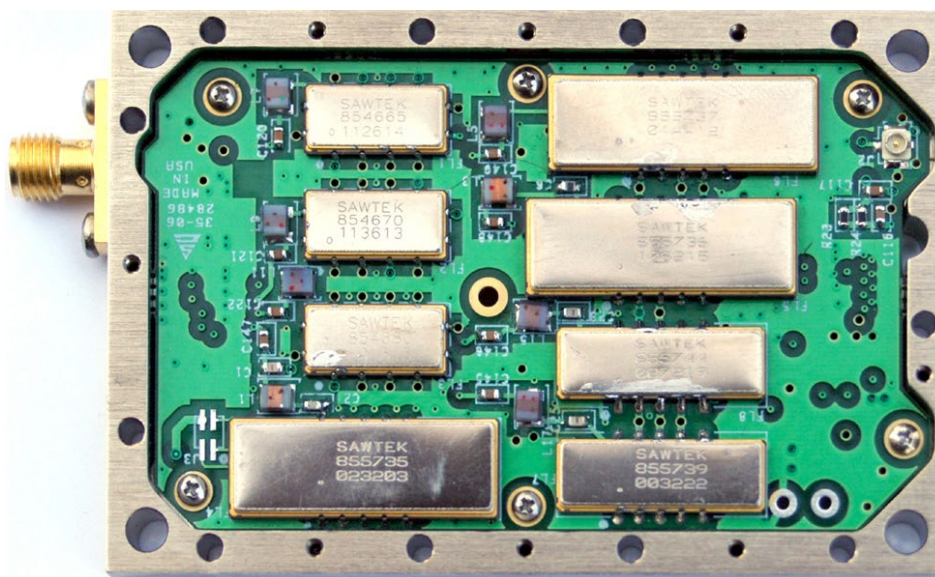
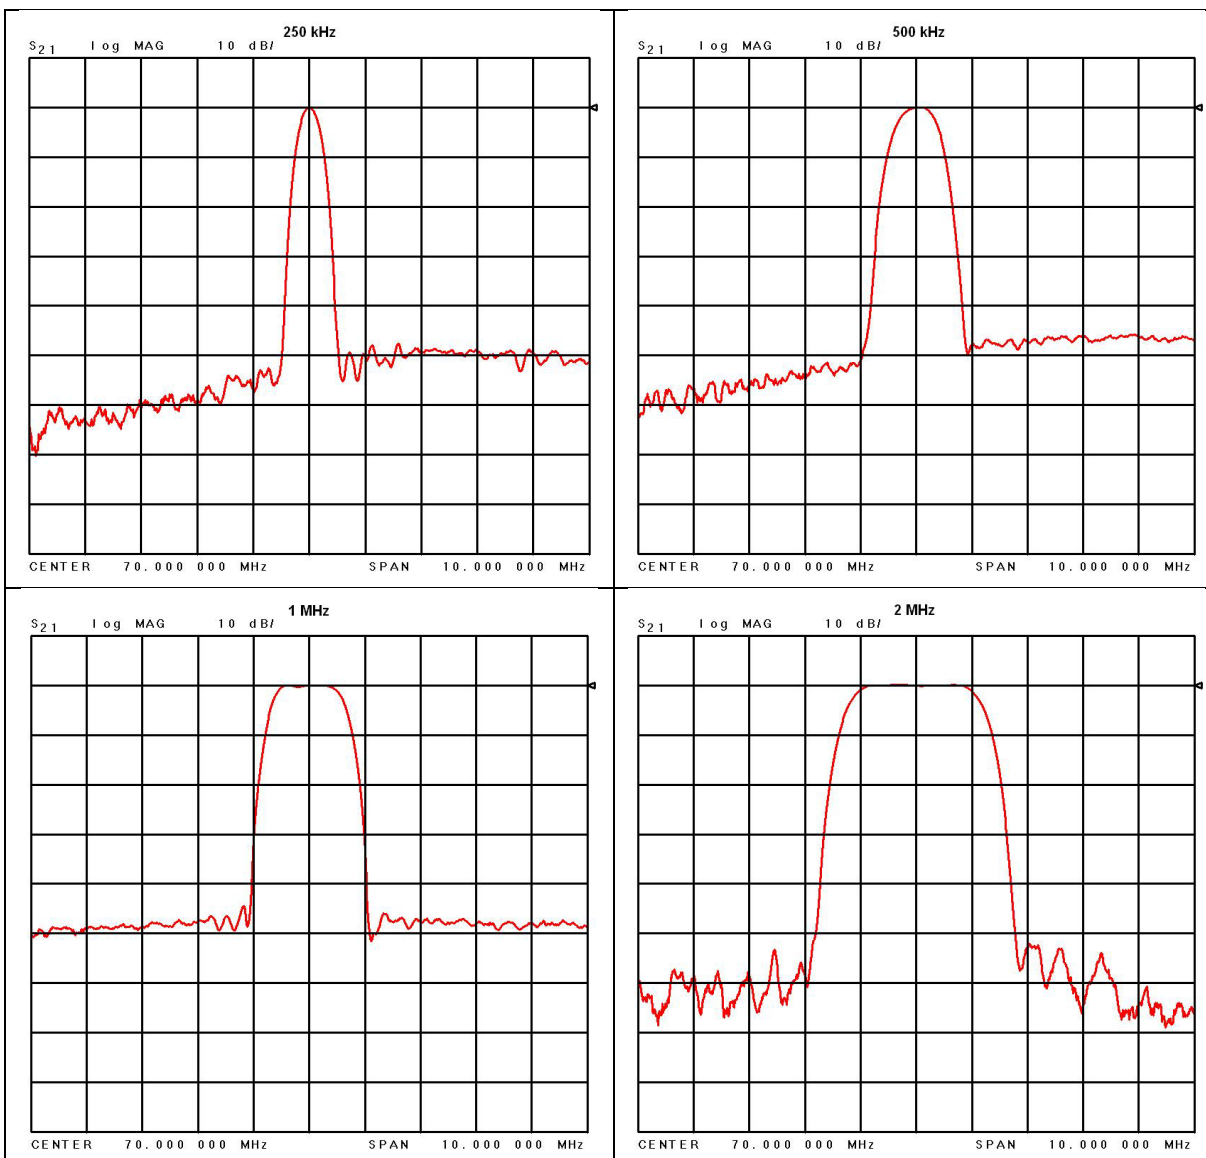
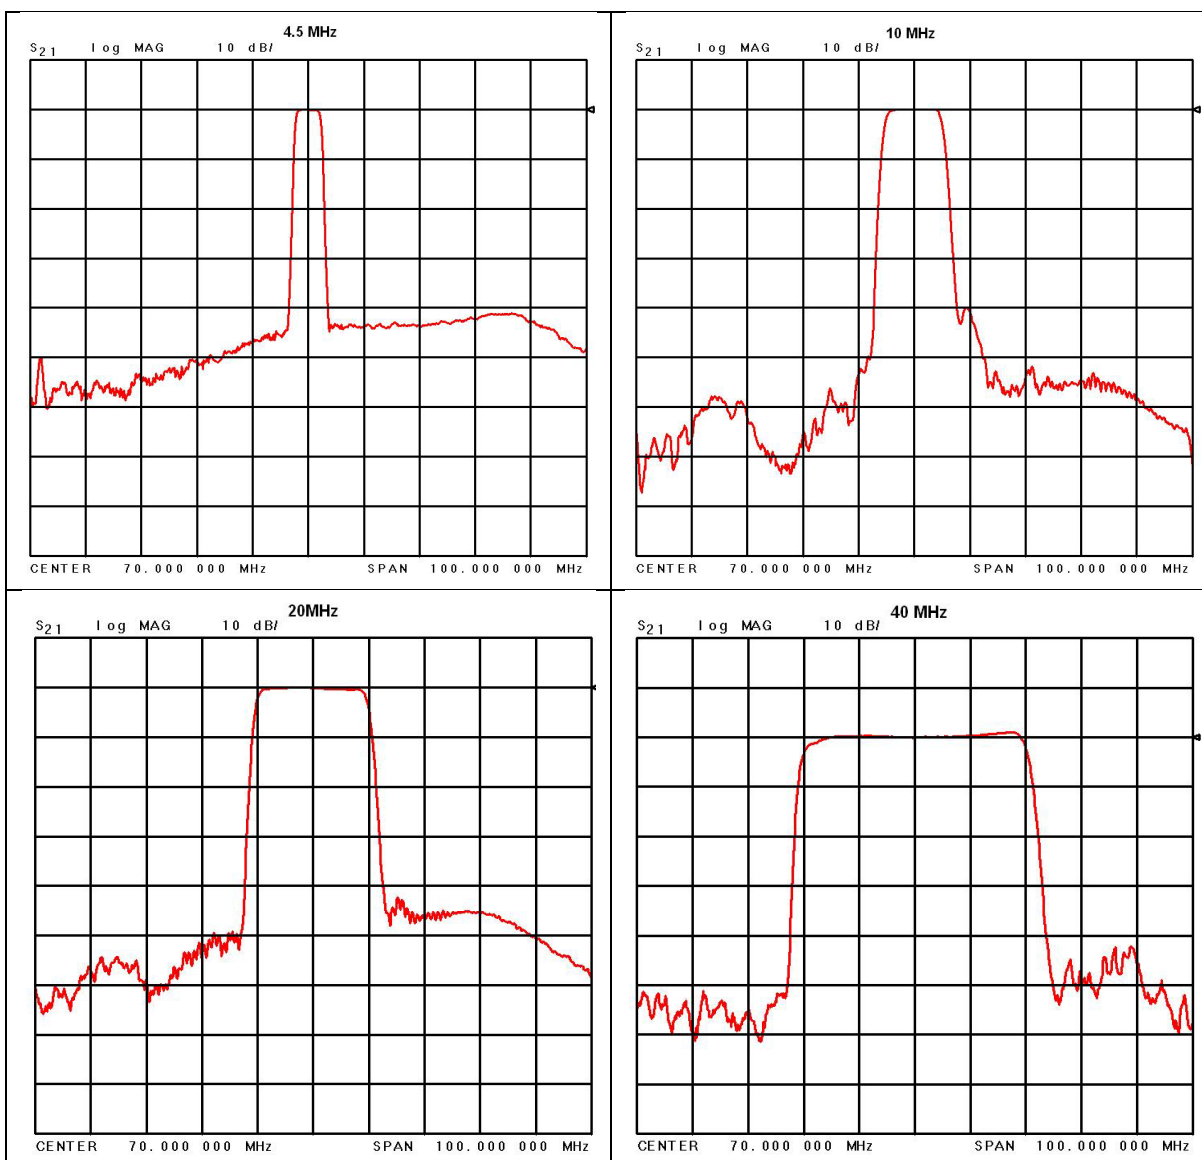

Figure 11: 70 MHz IF Module in 2" x 3" Chassis
Figure 12: 70 MHz IF Module in 2" x 3" Chassis SAW Filter Responses, Narrow Group (10 MHz Span)
Figure 13: SAW Filter Responses, Wide Group (Plotted on 100 MHz Span)
The receiver's integrated IF filter module, shown in Figure 11, includes eight (8) SAW filters, ranging in bandwidth from 250 kHz to 40 MHz in approximately one octave steps. The standard eight filters are 250 kHz, 500 kHz, 1 MHz, 2 MHz, 4.5 MHz, 10 MHz, 20 MHz, and 40 MHz. These filters serve as anti-aliasing filters ahead of the A/D converter in the demodulator itself. In addition, they can provide an added measure of adjacent channel interference rejection. The measured responses of the eight filters are shown in Figure 12 and Figure 13 (note the change of horizontal scale between the two figures).